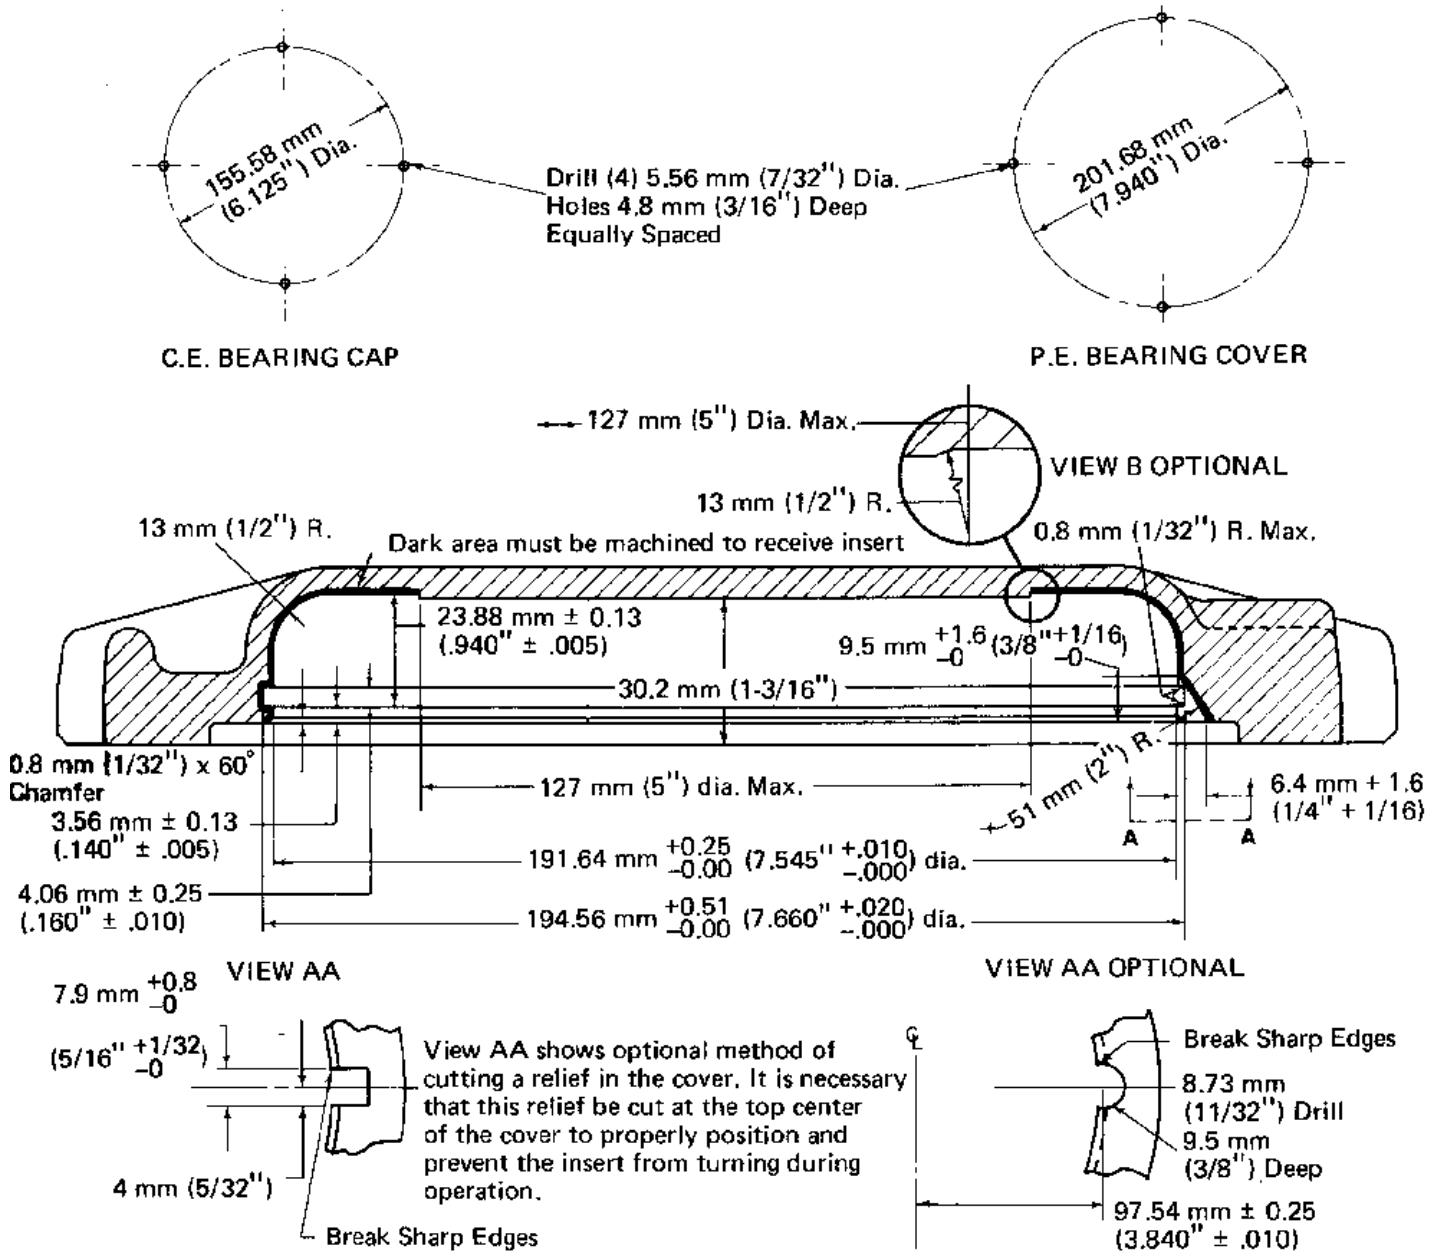

Fig. 1 – Anti-Churn Insert Modification
6. Any C.E. and P.E. bearing covers and C.E. bearing caps not equipped with the nylon anti-churn insert can be converted to receive the insert as shown in Fig. 1.